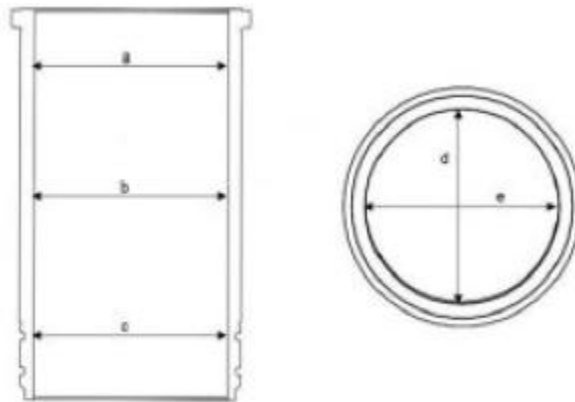

Figure 94.
3. Take measurements at three places (Figure 94) (a, b, c), and in two directions (d and e) in each cylinder liner.